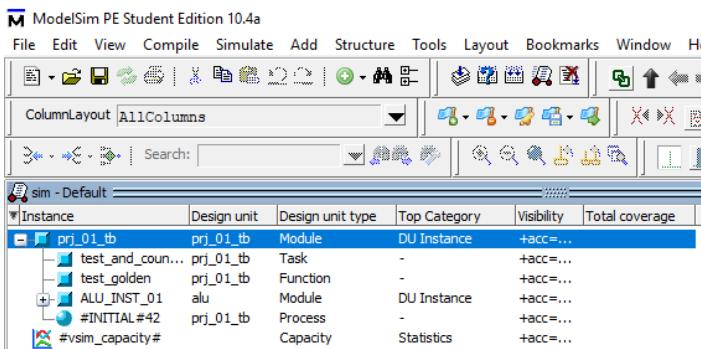

Figure 2.9: Sim tab
- 6) Now that you double-clicked on the test bench file, a new ‘sim’ tab will appear next to the project tab (Figure 2.9).